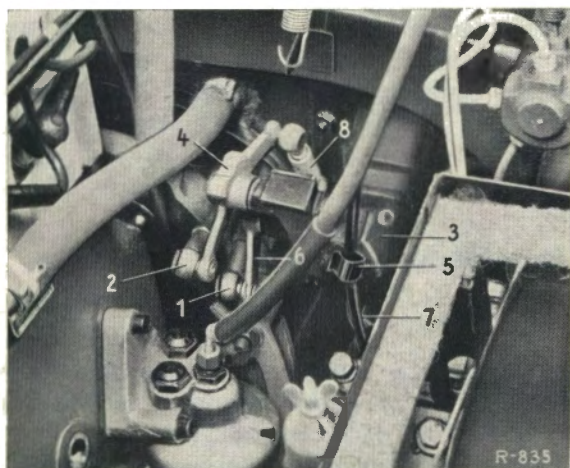

Fig. 26-12/2
Modification: Rigid connecting rod (Fig. 26-12/6) added
1. Detach the shift rod (2) and the selector rod (1) at the relay lever (4) and the selector lever (6) (Fig. 26-12/2).